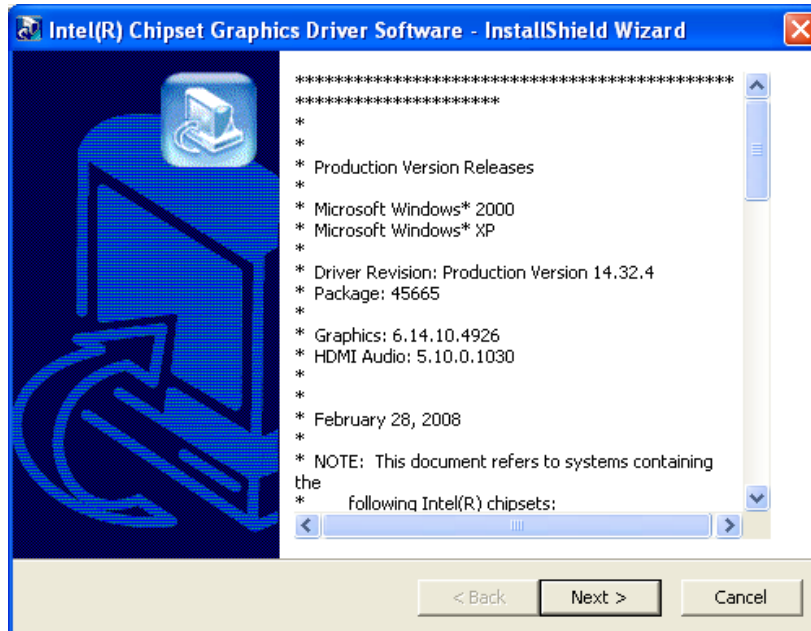

Figure 6-7: VGA Driver Read Me File
- Step 3:** The VGA Read Me file in **Figure 6-7** appears.